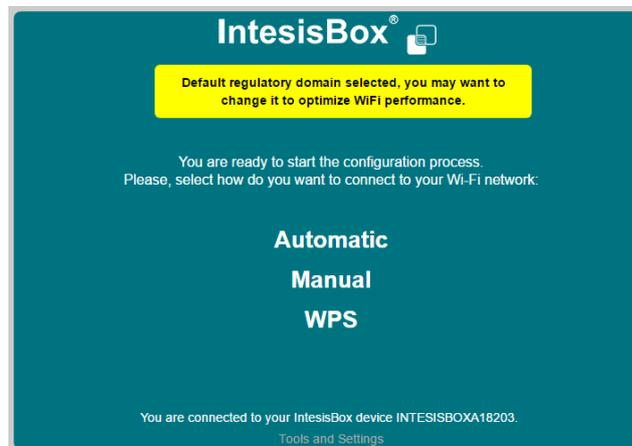

Figure 62. IntesisBox connection options.
**Step 2:** Connect the PC or mobile to this network and use the following web page to connect the WiFi device to the WiFi network: [wmpconfig.com](http://wmpconfig.com) (Figure 62).